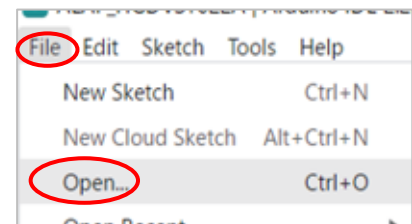

Fig.3
2. In menu [file]→[Open] and select (“file name”.ino) in list (Fig.3).